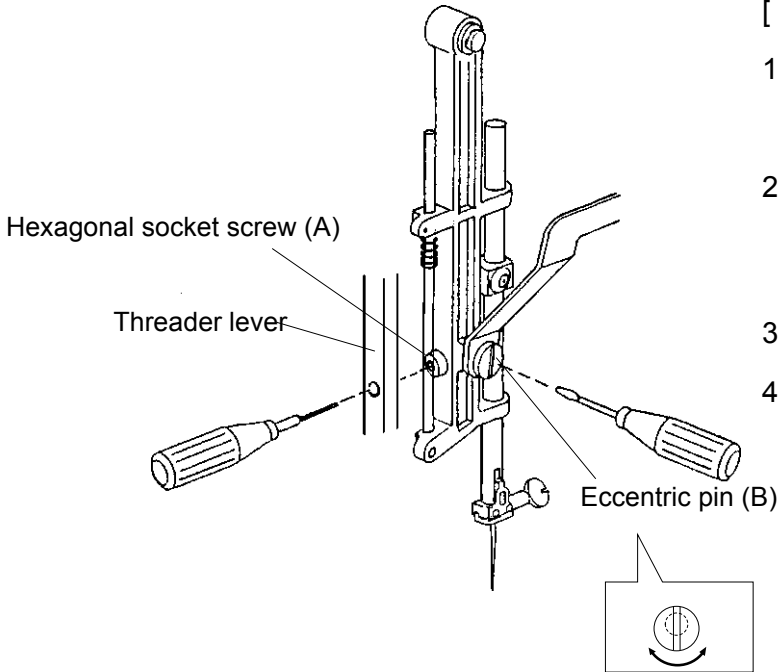

Fig. 1
2. Loosen the hexagonal socket screw (A) just enough to turn the eccentric pin (B).
The direction of the eccentric pin (B) should be as shown in the Fig. 1.
3. Tighten the hexagonal socket screw (A).